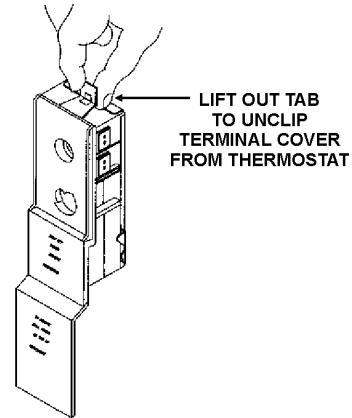

FIGURE 24.
- Turn off the water supply to the water heater at the water shut-off valve or water meter. See Figure 24.